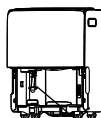

Fig.7
- If the pump hose drops when you remove the bucket (see Fig.7), you must reinstall the pump hose properly to the unit before replace the bucket into the unit (see Fig.8).